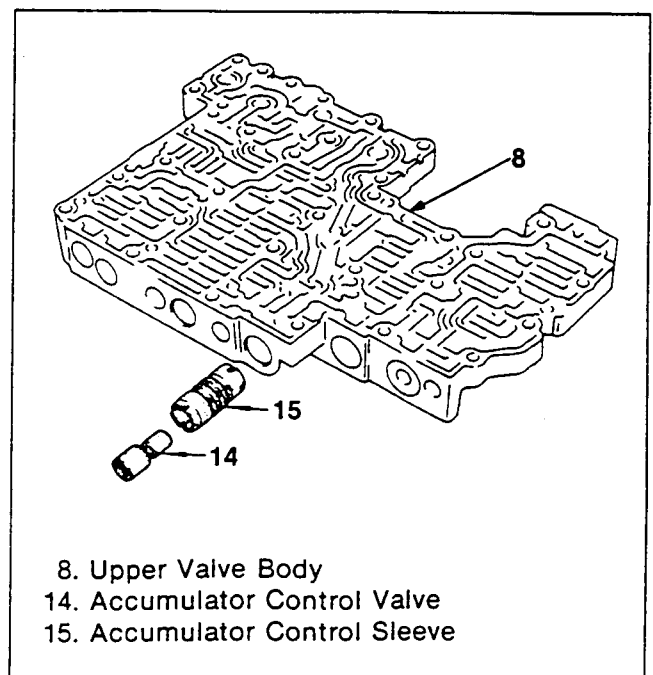

Figure 108. Upper Valve Body Inside Part Removal (2)
5. When removing the lock-up control valve and accumulator control valve, pull out the plug and sleeve as a unit, then separate them (figure 108).